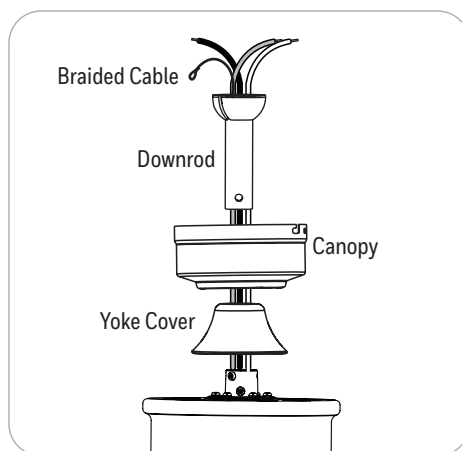

Figure 3.2
2. Feed the fan wires and braided cable through the yoke cover, canopy and downrod (Figure 3.2).